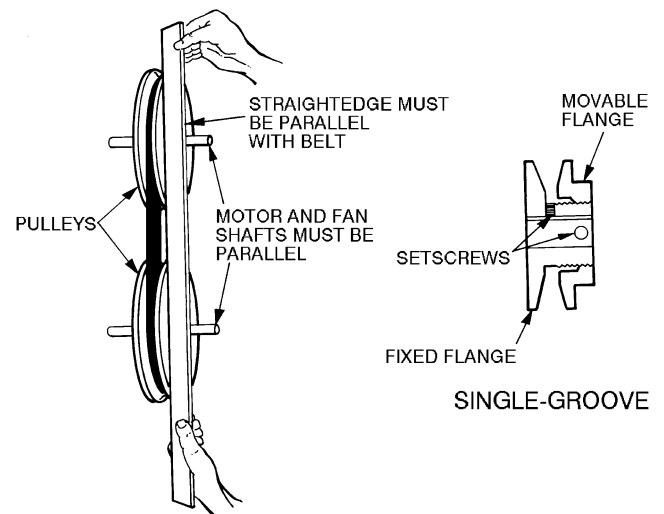

Fig. 12 — Condenser Fan Pulley Adjustment
3. Loosen movable pulley flange setscrew (Fig. 12).
PULLEY ALIGNMENT — Shut off unit power supply. Loosen fan motor pulley setscrews and slide fan pulley along fan shaft. Make angular alignment by loosening motor from mounting bracket (see Fig. 12). Check alignment with a straightedge.